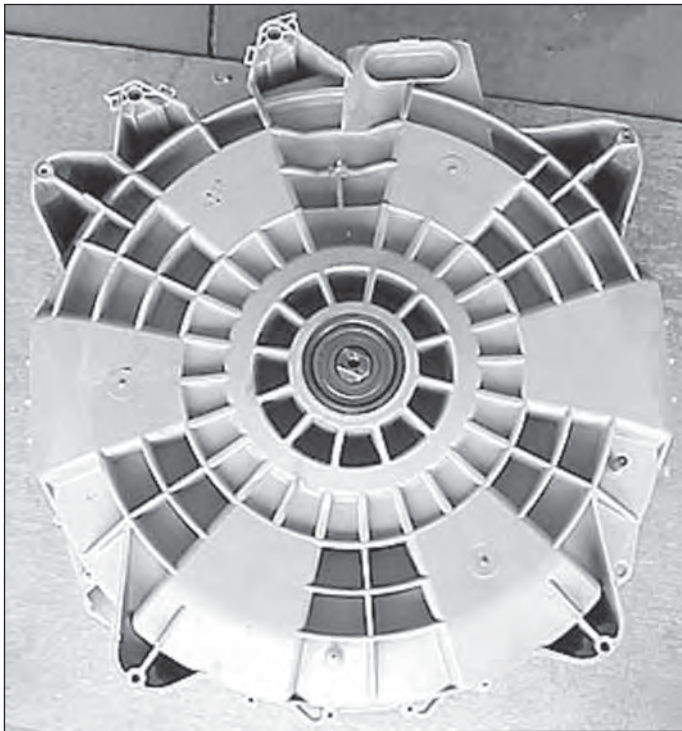

Figure 4-102.
11. Lift the cabinet off the tub. (See Figure 4-102)